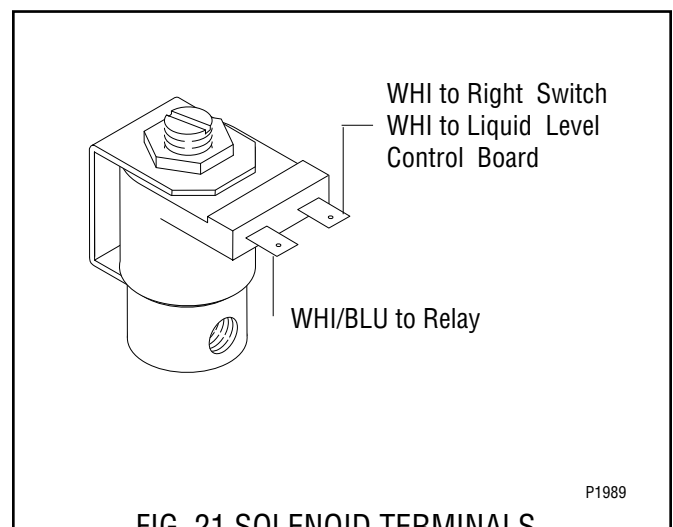

FIG. 21 SOLENOID TERMINALS
10. Refer to FIG. 21 when reconnecting the wires.